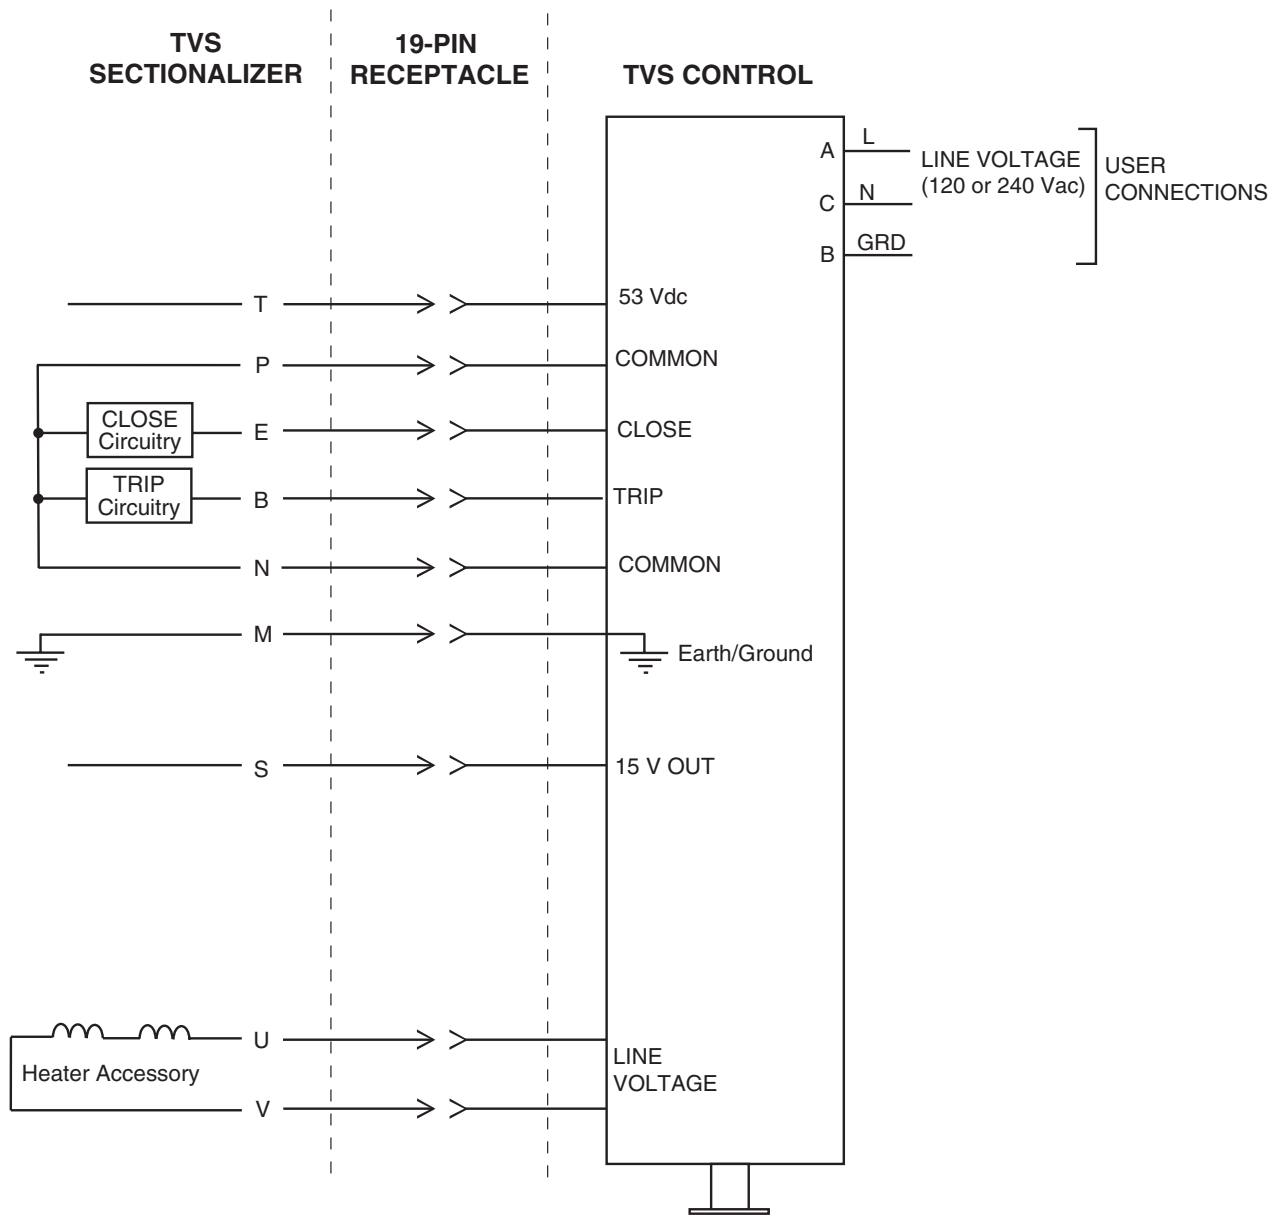

Figure 11.
- 7. Make the low-voltage power connections.** Connect the low-voltage side of the power transformer to the control as shown in Figure 11.
With 48 Vdc applied to Pin T with Pin N as ground (Figure 11), the sectionalizer may be opened and closed electrically by making momentary contact between P-B or P-E, Trip or Close Circuitry. The TVS Sectionalizer Control has a 19-pin and 3-pin receptacle as shown in Figure 4.